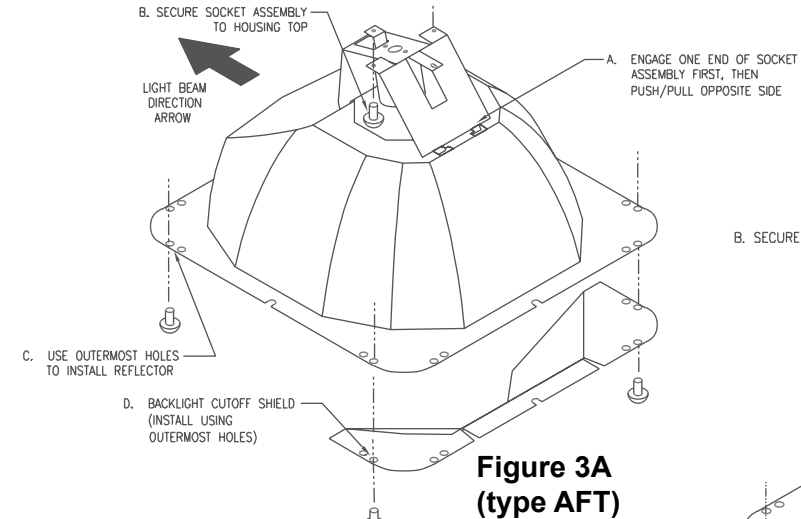

Figure 3A (type AFT)
- Locate socket assembly packed in *bottom of outer reflector carton*. Attach socket assembly to top of new reflector by engaging tabs on one end of socket assembly into mating slots of reflector top. Then push/pull opposite side of socket assembly to engage opposite side of reflector top. Depending on which type of reflector kit you have, see Figures 3A-3C.
- Secure new reflector/socket assembly to housing using old screws thru socket assembly holes only! See Figures 3A-3C, depending on which model. Install new lamp in new reflector. Tighten lamp, then loosen slightly, then retighten for secureness and long life.
- Finish securing reflector to housing by using old screws to secure new reflector flange. On type AFT reflectors only, locate additional cutoff shield in bottom of outside reflector carton and install as shown in Figure 3A.